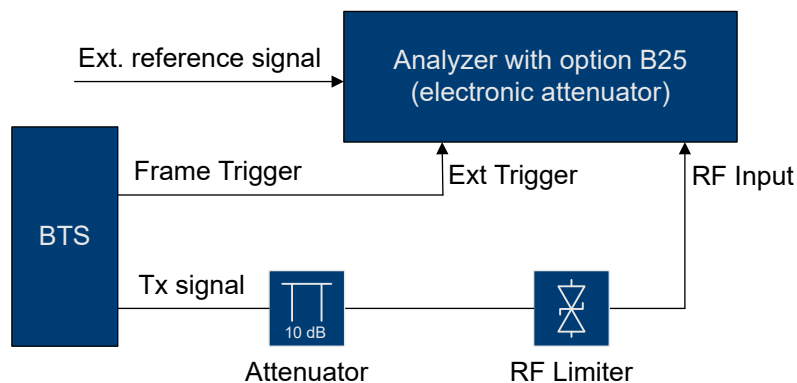

Figure 4-4: Test setup for transmit on / off power measurement
- Connect an RF limiter to the RF input to protect the RF input from damage (see Figure 4-4).